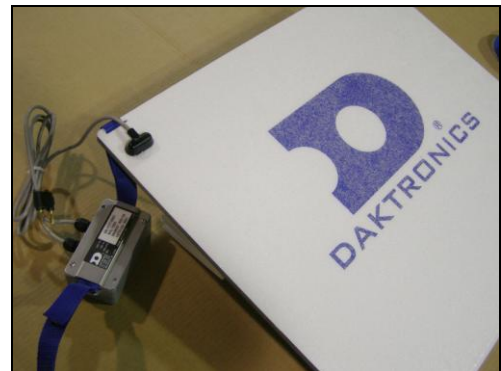

Figure 179: RTOP
- Inspect the gray electronics box for cracks (*Figure 179*). Also check that the sticker covering the red LED on the end is not peeling or torn, plus verify that the cable strain reliefs are secure and not broken, loose or missing.